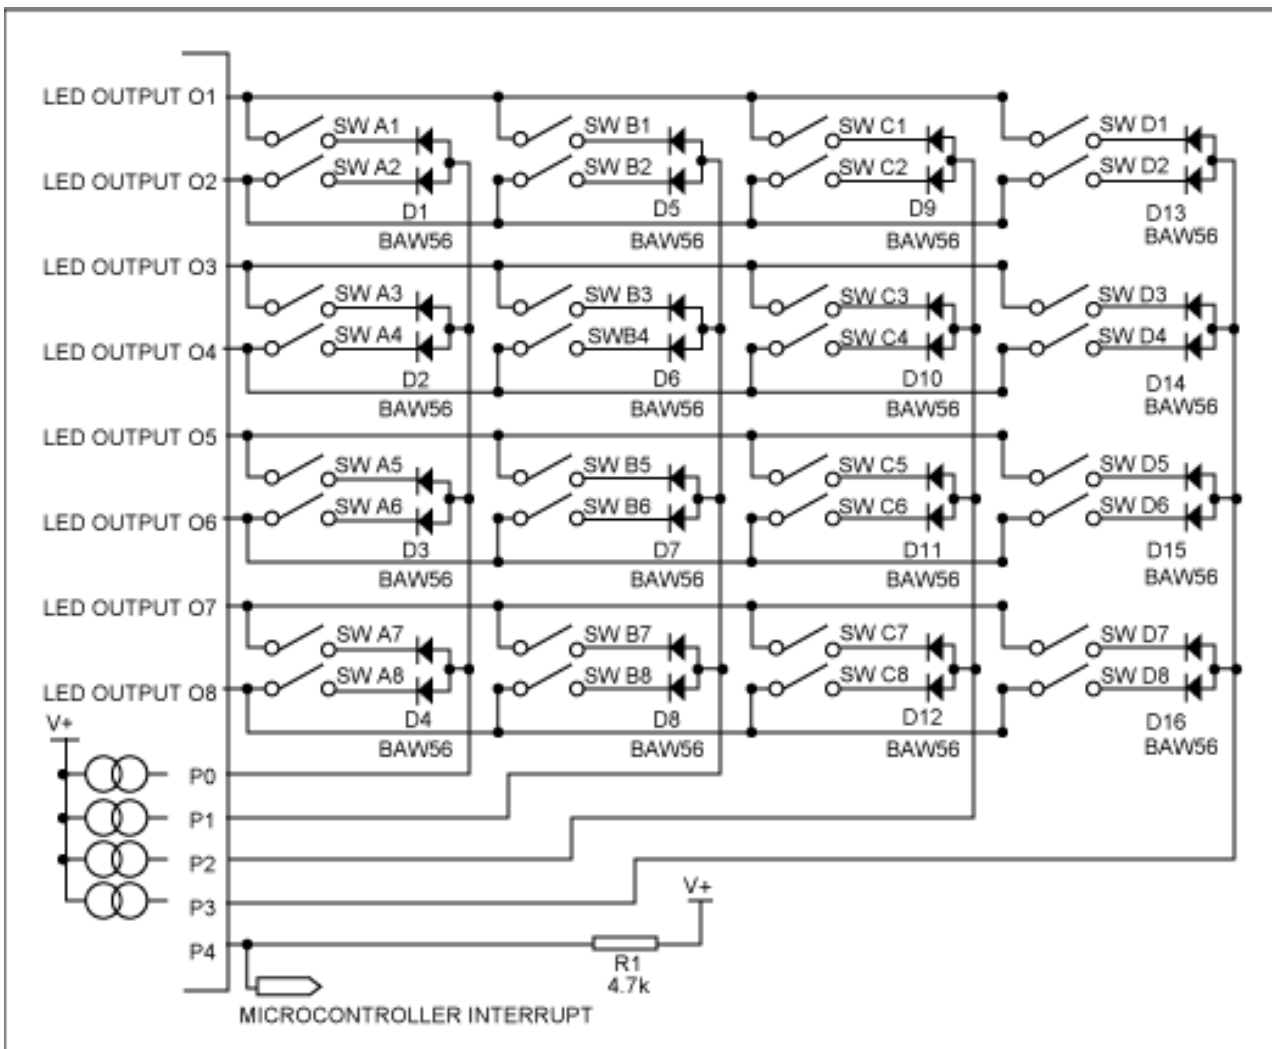

Figure 1. Standard 32-Key Connections to MAX6954/MAX6955.
**Table 1** and **Figure 1** show the standard key switch connections to the MAX6954/MAX6955. The key switch circuit reads 32 keys organized in a 4 x 8 matrix (four columns, eight rows). The eight key matrix rows are driven by the eight LED cathode drive outputs (LED Output O0 through LED Output O7). These LED cathode drive outputs alternately go low for 320µs (nom) and drive their LEDs sequentially as part of the multiplexed LED drive. These drive outputs are also used to each pull one end of two key switches low. The other ends of the keys connect to four input pins (P0-P3), which are internally pulled up to V+ inside the MAX6954/MAX6955. If a switch is pressed, then P0, P1, P2, or P3 is pulled low by the appropriate LED Output Ox output, and the MAX6954/MAX6955 detects and debounces the key press.